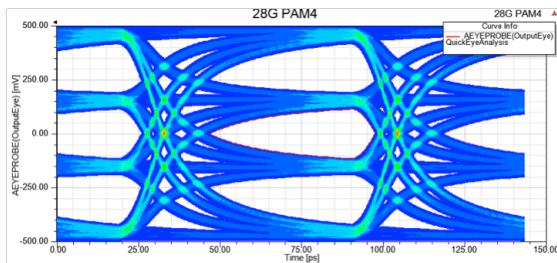

Figure 1 - 28 Gb/s PAM4 Eye Diagram
PAM4, also known as 4-level pulse amplitude modulation, is a method of encoding two binary bits into a single symbol mapped to one of four logic levels. When transmitted with the same unit interval (UI), PAM4 transmits twice as much data as Non-Return to Zero (NRZ) binary. Similarly, if transmitting at the same data rate, PAM4 will use a UI twice as large as what is used for NRZ. This is shown in Figures 1 and 2 where at 28Gb per second, PAM4 signaling uses a **71.4ps** UI and NRZ uses a **35.7ps** UI.